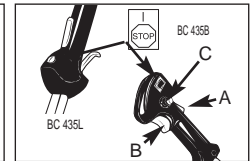

Fig. 9B
1. Press ON/OFF switch to the "RUN (I)" position (Fig. 9B).
4. Set throttle lock (C): Press the throttle trigger lockout (A) down and then while holding throttle trigger (B) at partially open position, press down and hold throttle lock (C). Release throttle trigger (B). Throttle trigger (B) will now remain in the partially depressed position; If no throttle lock: Press the throttle trigger lockout down and then while holding throttle trigger (B) at one-third open position.(Fig. 9B) Pull starter rope 3 times. (Fig. 9F)
- Set throttle lock (C): Press the lockout switch (A) down and then while holding trigger (B) at partially open position, press down and hold throttle lock (C). Release throttle trigger (B). Throttle trigger (B) will now remain in the partially depressed position. If no throttle lock: Press the throttle trigger lockout down and then while holding throttle trigger (B) at one-third open position. (Fig. 9B). Pull starter rope 6 times.